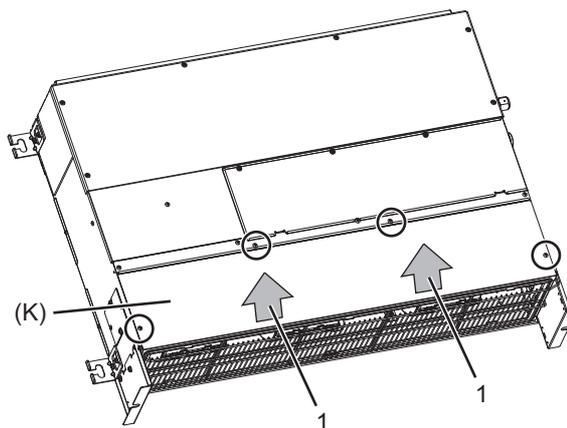

Fig. 10
- (1) Push down the tab on the filter, and pull out the filter in the direction of the arrow 1. (Fig.10)
- (2) Remove the control box cover (A) with procedure [1]-1.
- (3) Remove the front plate (D), (E) with procedure [1]-3.
- (4) Remove the fixing screws on the control box (F) with procedure [1]-3.
- (5) Remove the fixing screws on the front plate (K) to remove it. (Fig. 10)